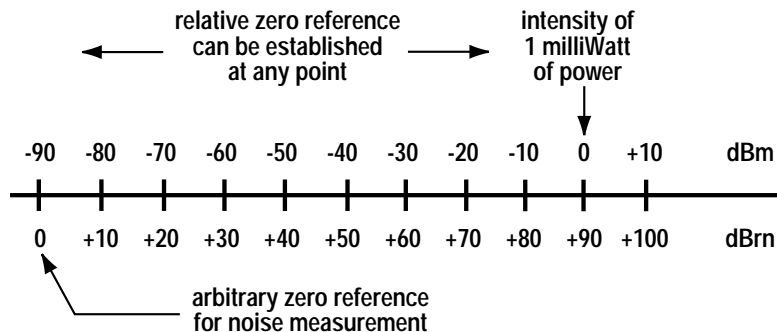

Figure 3-2. Level and Noise Units of Measurement
00.0 dBm is defined as the level of one (1) milliWatt of power, hence the abbreviation “m” after the dB. Levels of less power than this reference point are negative, -dBm values; and levels of greater power are positive, +dBm values. See Figure 3-2.
The dBm unit is used in noise level measurements, “m” meaning relative noise. Note in Figure 3-2 that the zero reference for noise measurement has been established at -90 dBm, an extremely low level for a telephone line. Thus, noise measurements will always be positive (higher level) with respect to the 00.0 dBm reference.